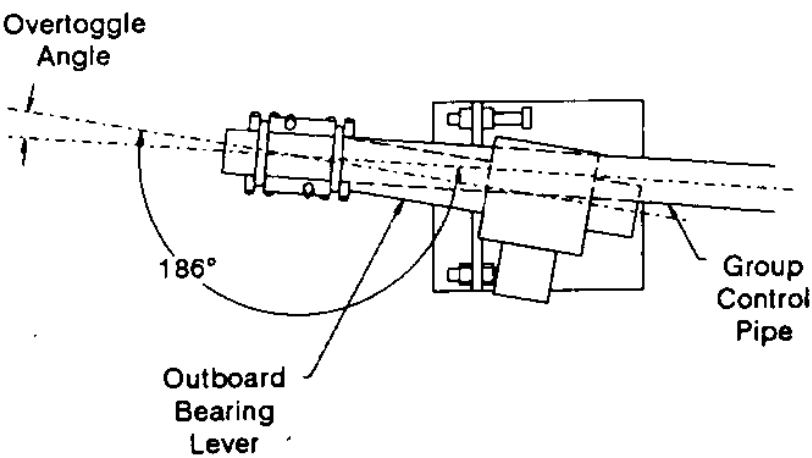

Figure 30 -- Outboard Bearing Overtoggle
4. Rotate outboard bearing lever to approximately 4 degrees over-toggle in the full open position against the open position bearing stop. See Figure 30 which illustrates an over-toggle position. The bearing stop may require some readjustment at this time to set this overtoggle position.